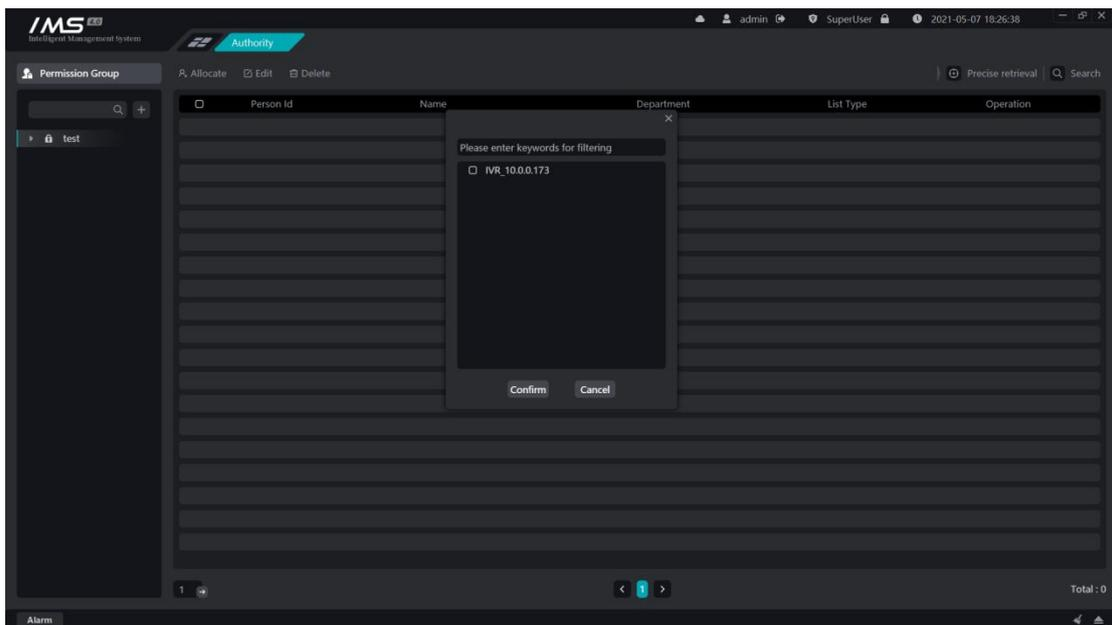

Figure 4-3
- 3 Select the device, as shown in figure 4-3.